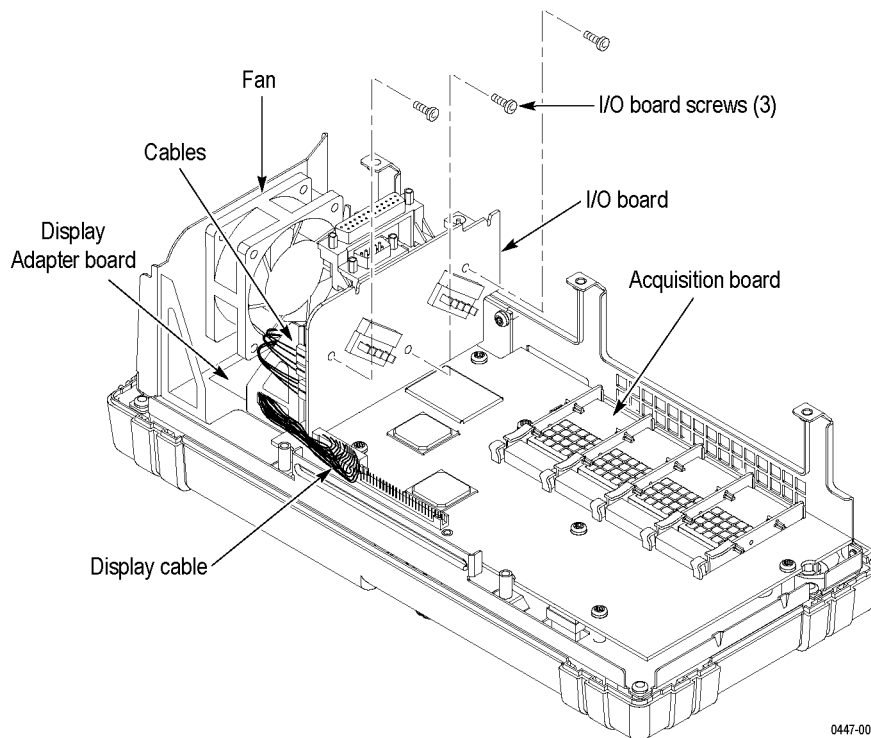

Figure 4: Modules accessed from the rear of the oscilloscope
Removal. To remove the fan, follow these steps. (See Figure 4 on page 50.)
Installation. To install a new fan, follow these steps. (See Figure 4.)
I/O Board Removal. To remove the I/O board, follow these steps. (See Figure 4 on page 50.)
Installation. To install the I/O board, follow these steps. (See Figure 4.)
1. Refer to the exploded view and the rear-panel locator diagram. (See Figure 4 on page 50.) (See Figure 16 on page 78.)
Installation. To install the Display Adapter board, follow these steps. (See Figure 4.)
5. Disconnect the LCD backlight cable from J202 on the Display Adapter board. (See Figure 4 on page 50.)